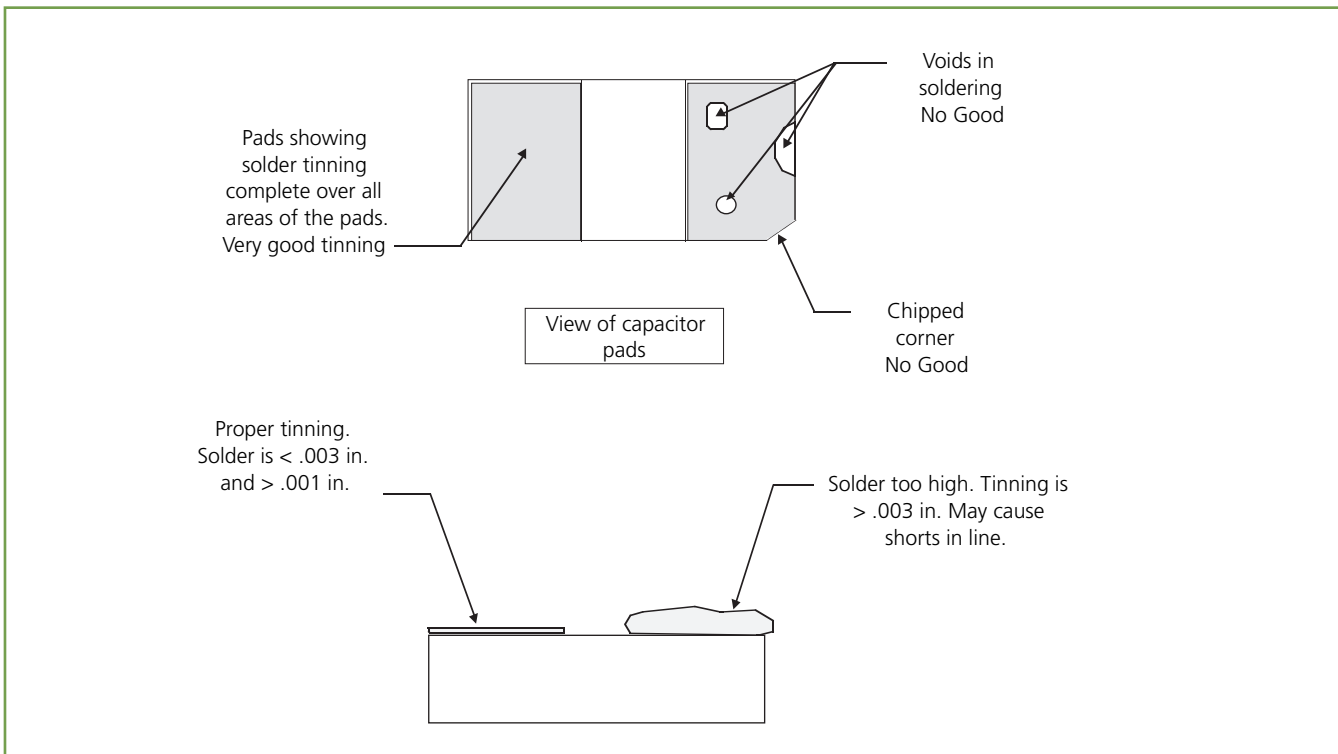

Figure 2. Showing proper capacitor tinning inspection
11. For a proper solder joint, the capacitor must be tinned with the same solder that is used on the land. This can be accomplished either by solder dipping or by reflow using a soldering iron. (See Figure 2 for proper solder amount.) In either case, care must be taken to not thermally shock the capacitor; this is done by pre-heating it on a hot plate that is preset to approximately +125 °C. Remember to thoroughly clean the capacitor before attaching it to the board.